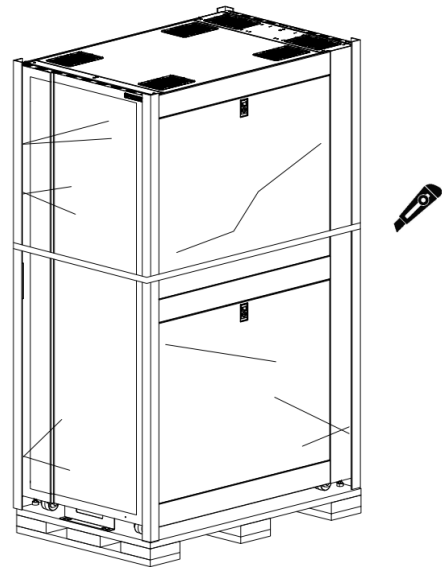

Figure 3.2
- Carefully cut the packaging tape, as shown in Figure 3.2